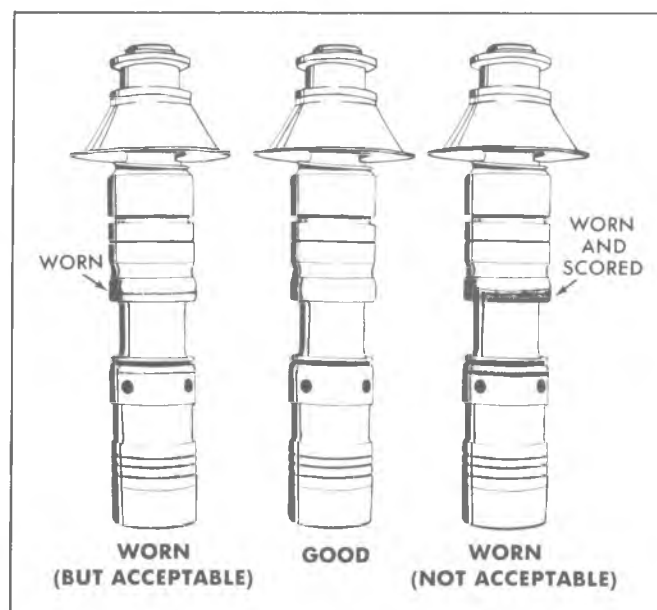

Fig. 5-4E--Spool Valve Inspection
9. Remove the input rod and piston assembly, the spool assembly and spool spring from the booster housing. Compare spool valve condition to Figure 5-4E. If spool valve is defective, the complete unit must be replaced.